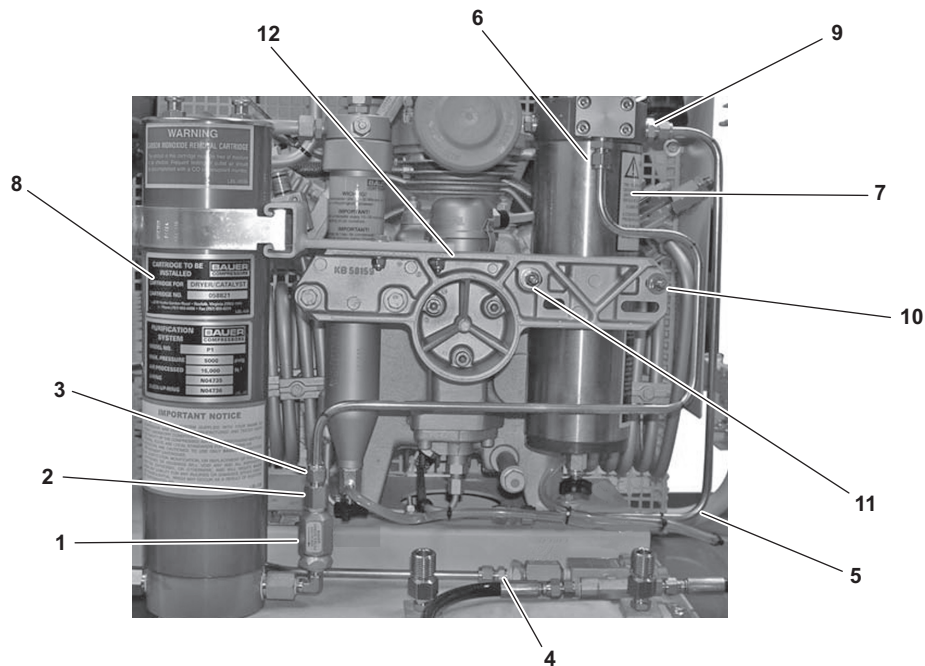

Figure 6-32. Flare Fitting Connections for Final Separator
- (1) Remove the CGA fittings on the fill hoses from the stowage couplings.
- (2) Remove the Tygon® tubing from the drain on the bottom of the final separator.
- (3) While using a 3/4 inch wrench to hold the P1 purification check valve (figure 6-32, item 1) in place, use a 5/8 inch wrench to loosen (CCW) the flare fitting (figure 6-32, item 2) connecting it to the nipple fitting (figure 6-32, item 3) on the P1 purification chamber check valve.
- (4) Use a 5/8 inch wrench to loosen (CCW) the flare fitting (figure 6-32, item 4) on the line (figure 6-32, item 5) coming from the aftercooler.
- (5) Use a 5/8 inch wrench to loosen (CW) the flare fitting (figure 6-32, item 6) on the final separator (figure 6-32, item 7). This line is going to the P1 purification chamber (figure 6-32, item 8) check valve (figure 6-32, item 1).
- (6) Use a 5/8 inch wrench to loosen (CCW) the flare fitting (figure 6-32, item 9) on the final separator (figure 6-32, item 7). This line (figure 6-32, item 5) is coming from the aftercooler. Remove the line off of the nipple fitting from the final separator.
- (7) While one person holds the final separator (figure 6-32, item 7) so it does not fall, use a 3/8 inch drive ratchet with 7/16 inch deep socket and loosen the nuts (figure 6-32, items 10 and 11) on the U-bolt by turning CCW.
- (8) When the U-bolt has been sufficiently loosened, the person holding the final separator (figure 6-32, item 7) shall lift it up carefully out and away from the frame mount (figure 6-32, item 12).
- (1) Have one person hold the final separator (figure 6-32, item 7) inside the U-bolt, with the final separator positioned so that the lines connecting it with the aftercooler and P1 purification chamber check valve (figure 6-32, item 1) are aligned.
- (2) Tighten the connections on the lines to the final separator (figure 6-32, item 7) hand-tight.
- (3) Using a drive ratchet with 7/16 inch deep socket, tighten the nuts (figure 6-32, items 10 and 11) on the U-bolt holding the final separator (figure 6-32, item 7) by turning CW until snug.
- (4) Using a 5/8 inch wrench, connect the flare fitting (figure 6-32, item 6) connecting the line to the P1 purification chamber (figure 6-32, item 8) check valve (figure 6-32, item 1). Turn CCW until snug.
- (5) Using a 5/8 inch wrench, connect the flare fitting (figure 6-32, item 9) connecting the line from the aftercooler. Turn CW until snug.
- (6) Using a 5/8 inch wrench, connect the flare fitting (figure 6-32, item 4) connecting the line from the aftercooler. Turn CW until snug.
- (7) While using a 3/4 inch wrench on the P1 purification check valve (figure 6-32, item 1) to hold it in place, use a 5/8 inch wrench to connect the flare fitting (figure 6-32, item 2) connecting the line to the P1 purification chamber check valve. Turn CW until snug.
- (8) Install the Tygon[®] tubing to the drain on the bottom of the final separator (figure 6-32, item 7).